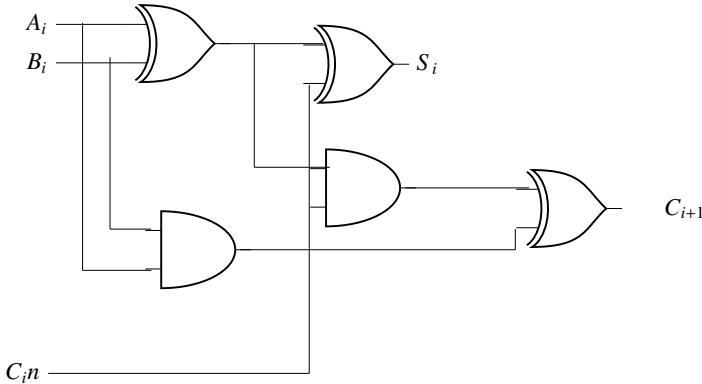

Fig. 4.18
33. Fig. 4.18 below shows the i^{th} full-adder block of a binary adder circuit. C_i is the input carry and C_{i+1} is the output carry of the circuit. Assume that each logic gate has a delay of 2 nanosecond, with no additional time delay due to the interconnecting wires. Of the inputs A_i , B_i are available and stable throughout the carry propagation, the maximum time taken for an input C_i to produce a steady-state output C_{i+1} is nanosecond. (GATE IN 2019)